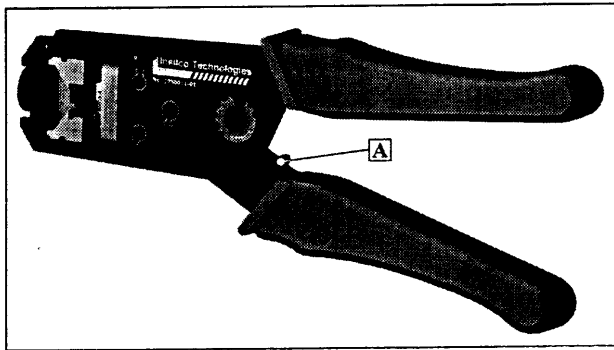
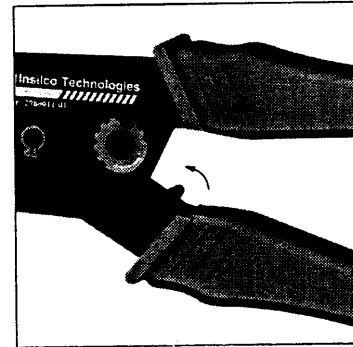

Fig. 4.
Fig. 5.
- On smaller handle in front of the plastic cover locate the lever (A) for releasing the tool actuating mechanism. (Fig.4.) Pushing the release lever in direction as shown on the Fig.5. will result in opening of the handles and the crimping dies. Thereafter, any existing obstruction that caused the blocking of the tool can be removed.